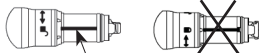

Figure 1 Indicator Bar
1. Confirm indicator bar on distal end of handpiece is aligned with unlock symbol (Figure 1) before attempting to install attachment. If not aligned properly, hold handpiece housing firmly with one hand and with other hand rotate distal end in direction of arrow to align indicator bar with unlock symbol.